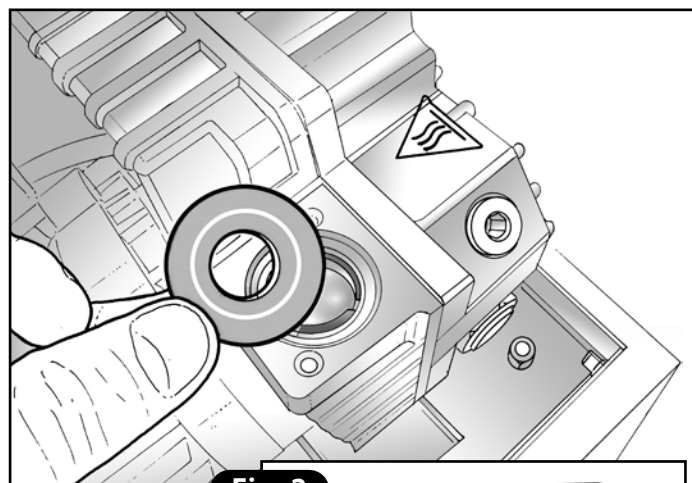

Fig. 2
- Unscrew the screws used to secure the sealing bar to the support (**Fig. 2**).
- 4) Remove first the rubber shutter, then the steel one. Check the condition of the entire accessible intake section, and if necessary clean it with a cloth soaked in alcohol (**Fig. 2**).